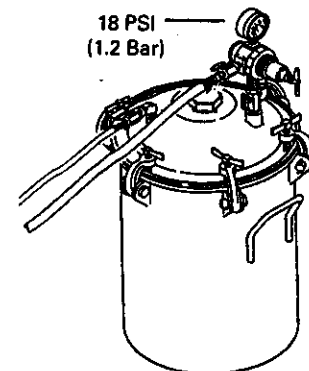

Figure 5 Activator Tank
2. Adjust the activator tank pressure to approximately 18 PSI (1.2 Bar) (Figure 5). If the optional flow meter is used, open the adjustment valve fully counterclockwise.